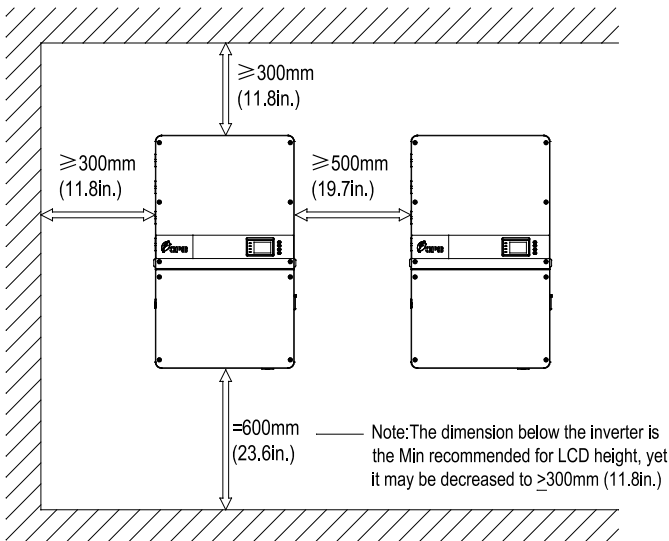
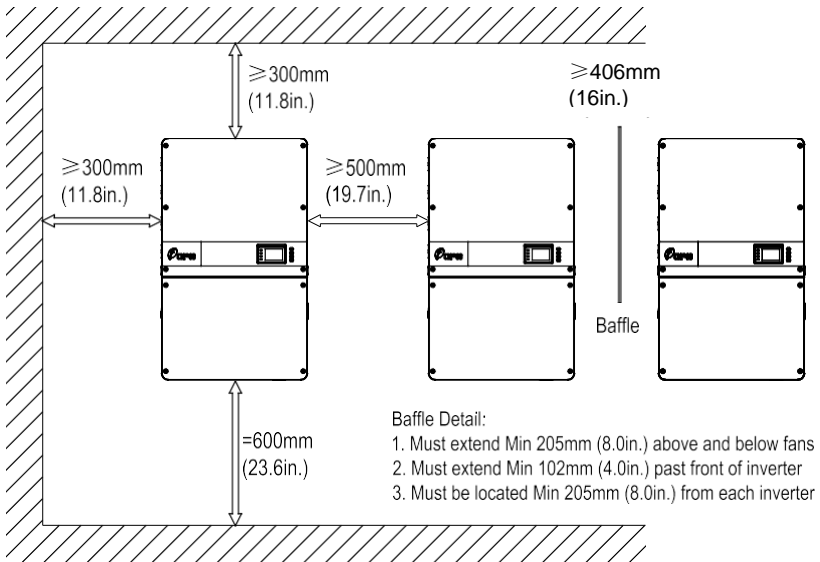

Figure 3-3 Inverter Wall Mounting Dimensions
Figure 3-4 Inverter Wall Mounting Baffle Details
- ✓ Sufficient space according to Figure 3-3 and Figure 3-4 must be provided to allow the inverter cooling system to operate effectively.